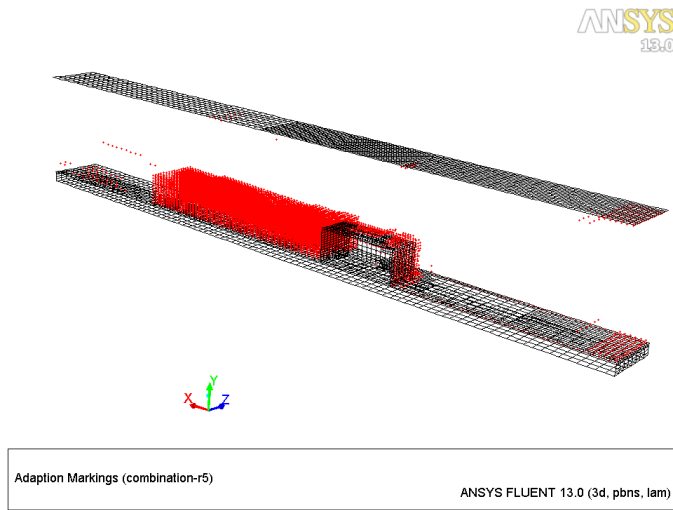

Figure 22: Cells Marked (approx. 12210) for Second Mesh Adaption
- Figure 22 shows the cells marked for the second mesh adaption (combination of pressure gradient, velocity gradient, temperature gradient, and region adaption registers).